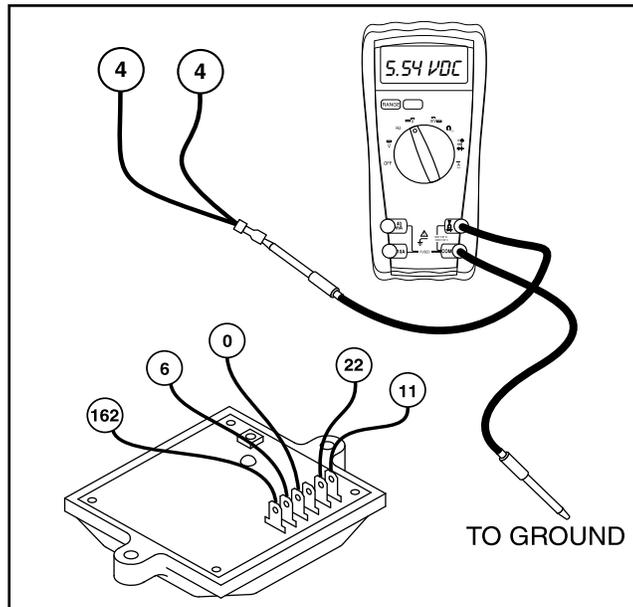

Figure 3. Field Boost Test Points
1. Disconnect Wire 4 from the voltage regulator, third terminal from the top (see Figure 3).
5. Crank the engine while observing the VOM reading. While the engine is cranking, the VOM should read approximately 4-6 Volts DC. When engine is not cranking, VOM should indicate “zero” volts (see Figure 3).